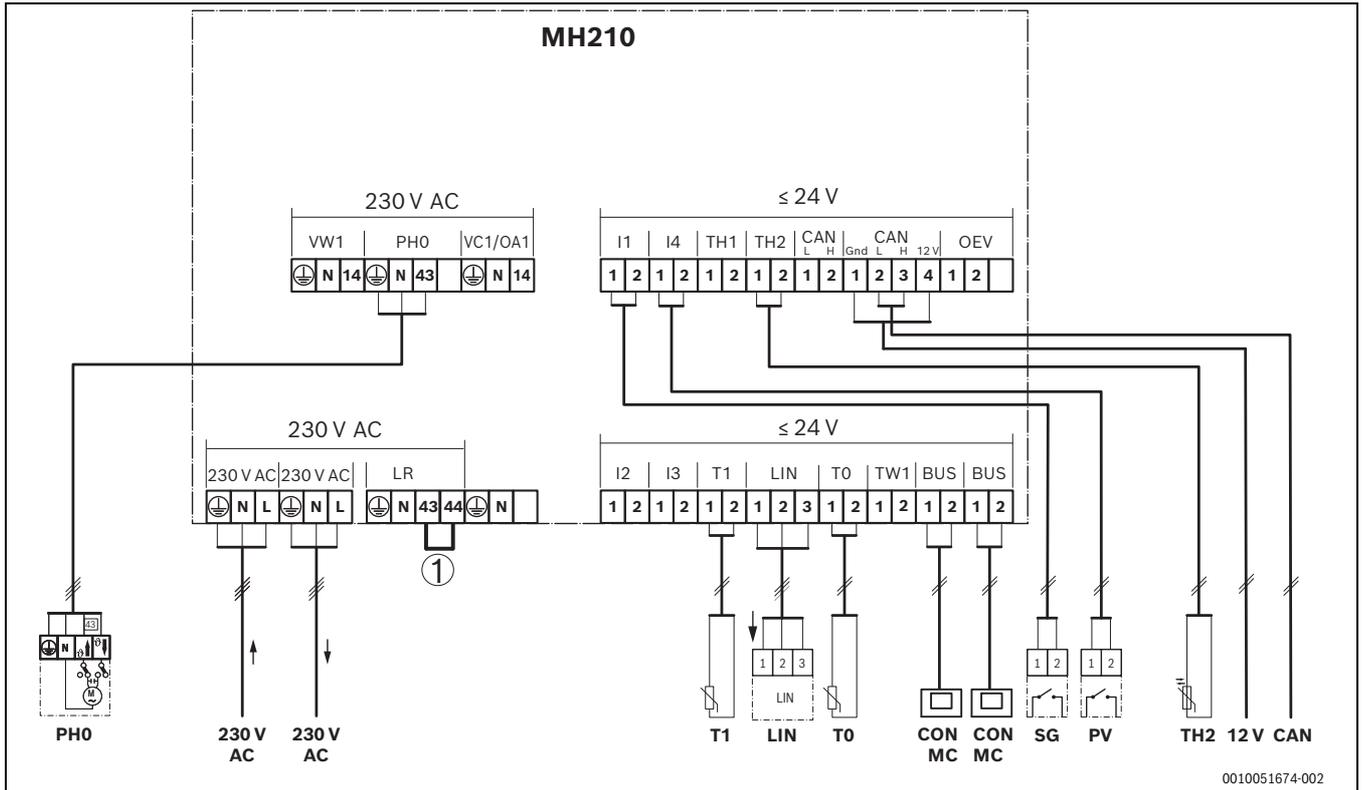

Fig. 34 Overview of the terminal assignment
- ▶ Ensure that the cables are connected to the connections of the hybrid manager marked accordingly (→ Fig. 34).
Legend for figure 34 and tables 1 and 2: